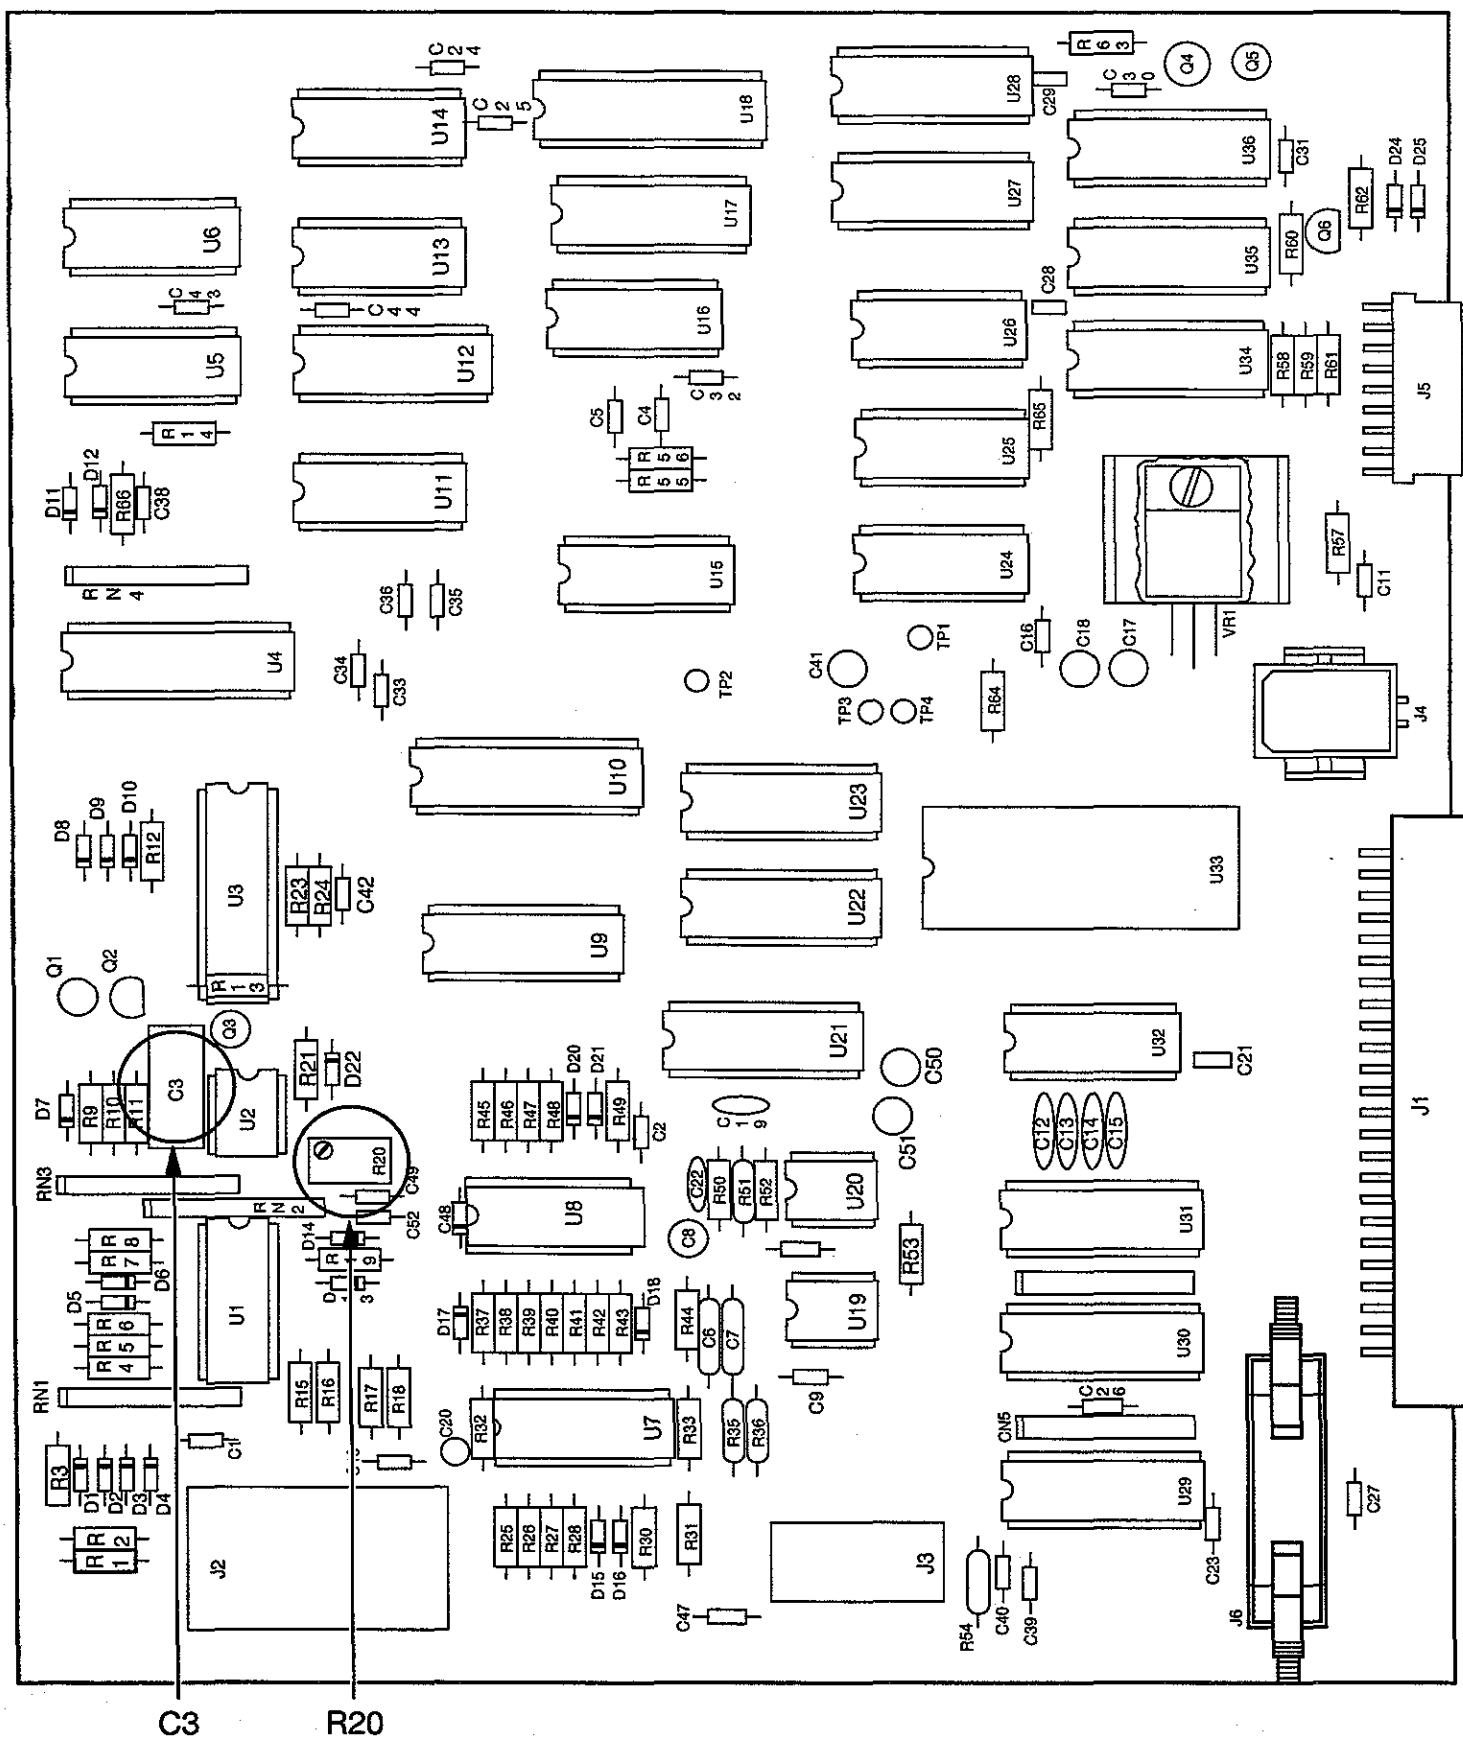

Figure 6-10
2. If necessary, adjust R20 on the Analog Interface Board 601614 or R6 on the Analog Interface Board 600471 until the reading is correct. Turn counterclockwise to decrease the time, clockwise to increase the time. Refer to Figures 6-10 and 6-11 for the location of R20 and R6.
7. **Before setting motor stall**, adjust P5/R83 to the 6 o'clock position. Refer to Figure 6-10 for location of P5/R83.
4. During the 10 second stall, read the digital voltmeter. Voltage readings should be from 0 to -40 mv. If necessary, adjust P4/R82; to allow the reading to remain a negative value. Refer to Figure 6-10 for location of P4/R82.
4. Adjust P5/R83 to the 4 o'clock position. Refer to Figure 6-10 for location of P5/R83.